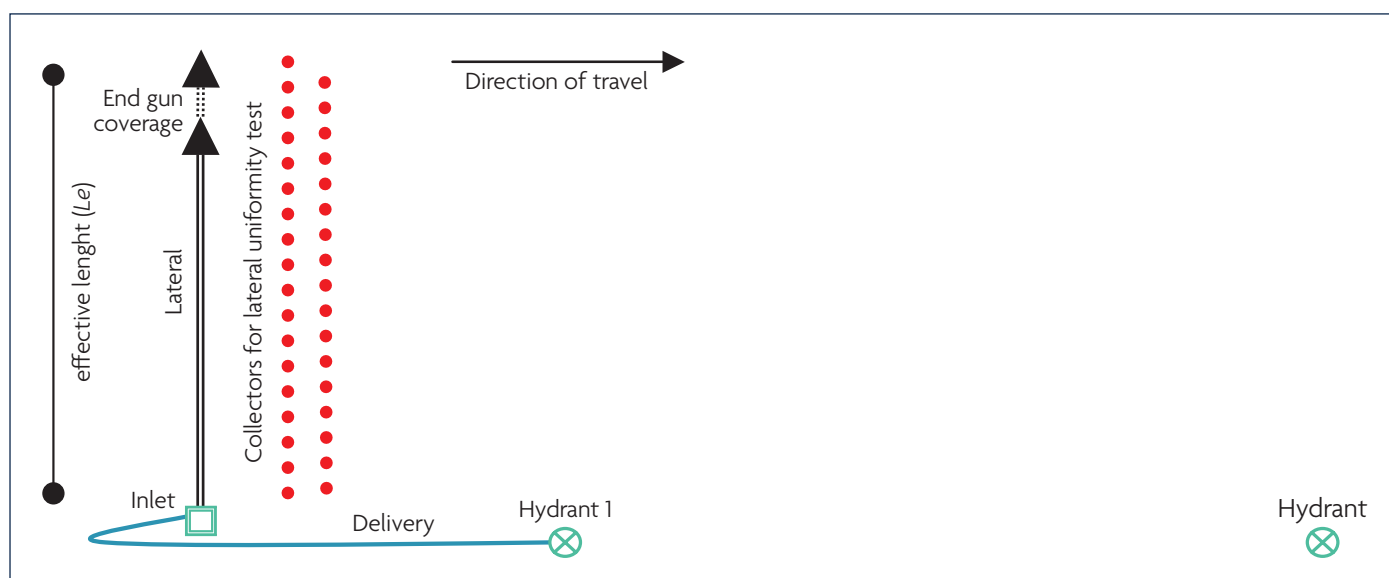

Figure 3.1. Layout of test site for linear move application testing
1. Prepare a map of the system recording the headworks, mainline, take-off points (hydrants) (Figure 3.1)